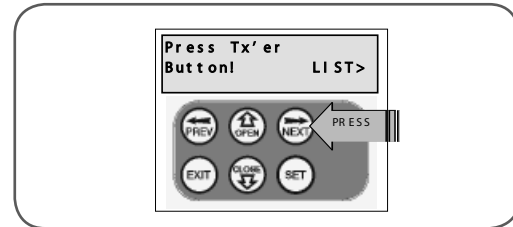
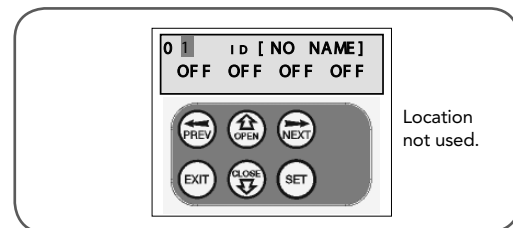

fig 32
fig 33
3. Press NEXT to enter transmitter list and edit mode (Fig. 32). The display will change as shown in (Fig. 33). This method is used if the transmitter is not available.